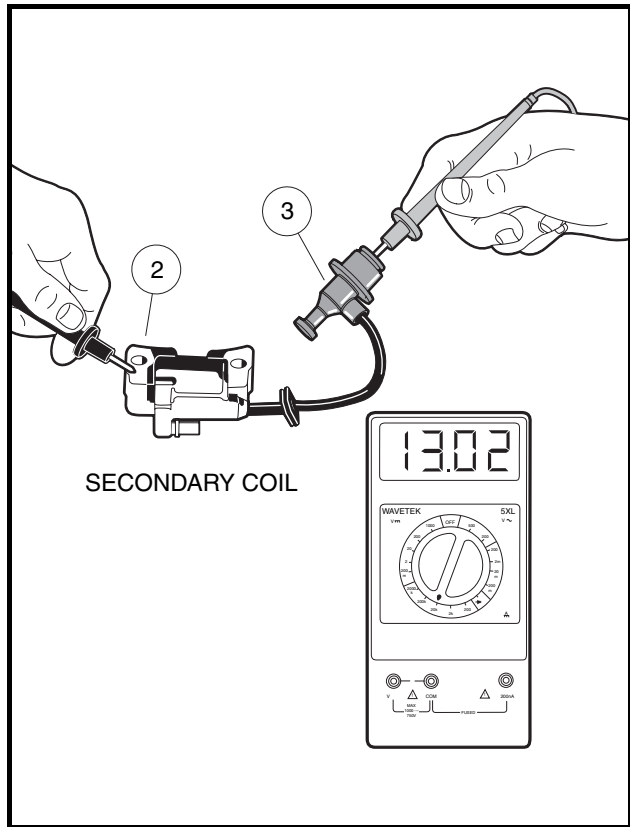

Figure 11-31 Secondary Coil and Cap Resistance - Bench Test
- 3.1. Place the red (+) probe of the meter into the end of the spark plug cap that normally connects to the spark plug (3) and place the black (–) probe on the core (2) (**Figure 11-31, Page 11-27**).